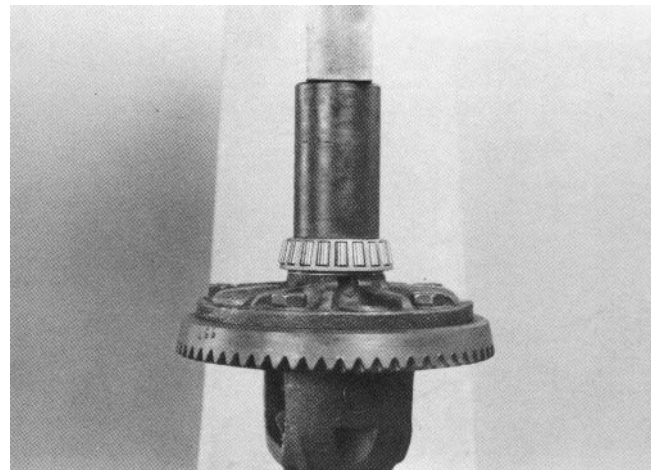

Figure 51
19. When installing new differential bearings, reuse the original shims or use new shims of the same thickness. Press the new differential bearings onto the differential case. If a new differential case is being installed, start with a 0.020 inch (0.50 mm) pack of shims under each differential bearing (Fig. 51).